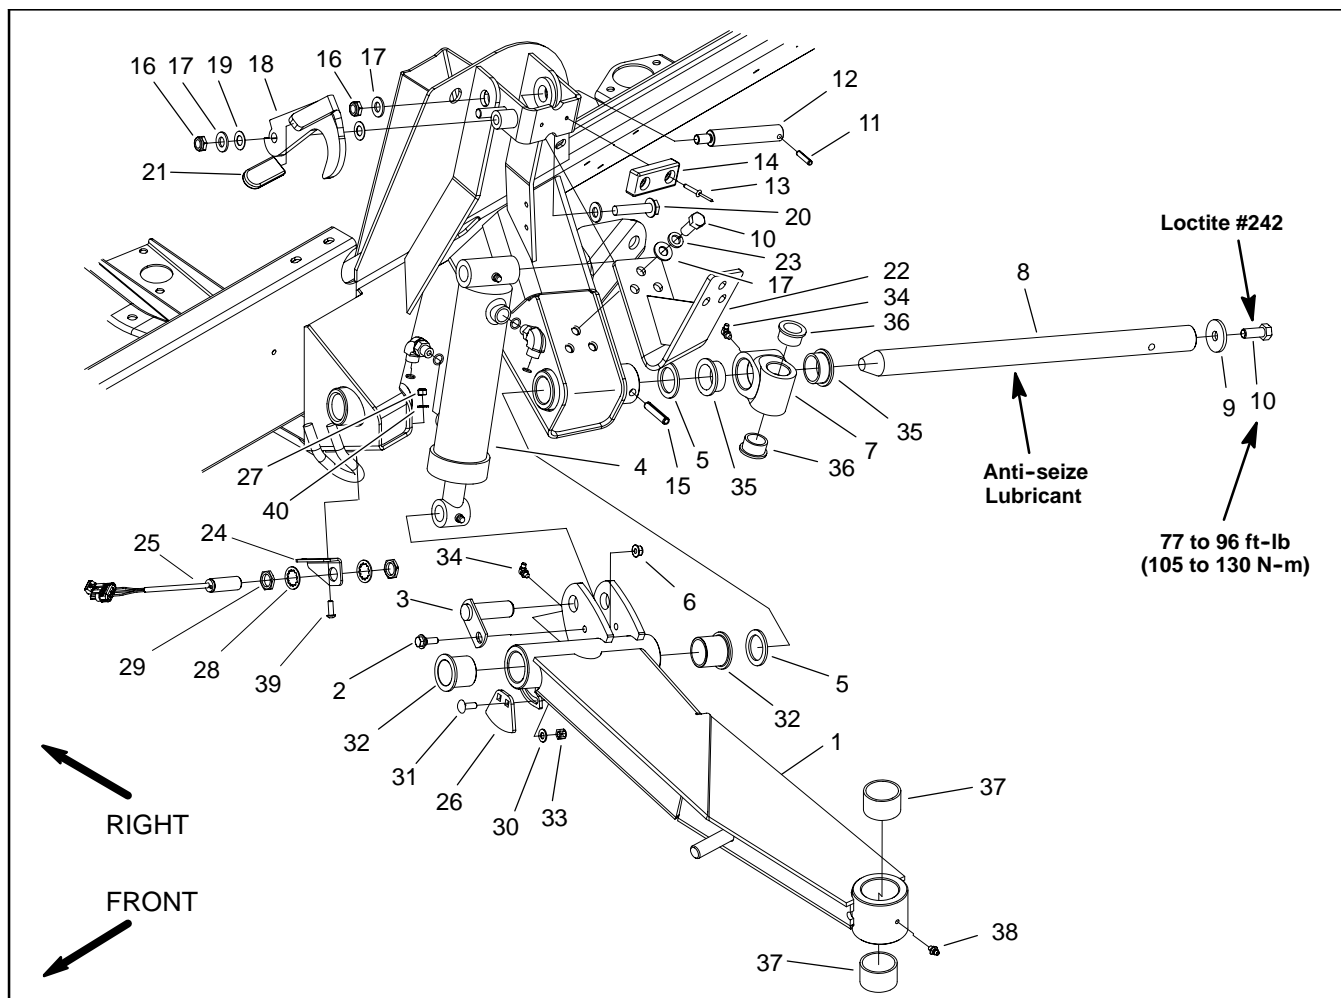

Figure 5
### Removal (Fig. 5)
### Installation (Fig. 5)
2. Position lift arm to frame with thrust washers properly placed (Fig. 5). Slide pivot shaft into frame and lift arm until roll pin holes in shaft and frame align.
5. Align lift cylinder with lift arm. Secure lift cylinder to lift arm with lift cylinder pin (item 3).
7. If sensing plate (item 26) was removed from lift arm, secure plate so it is rotated as far as possible toward center of machine.